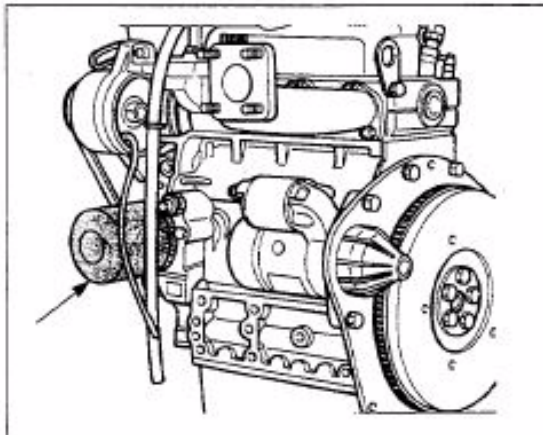

Figure 12. Engine Oil Filter
6. Use a band filter removal tool to remove the engine oil filter (see Figure 12).